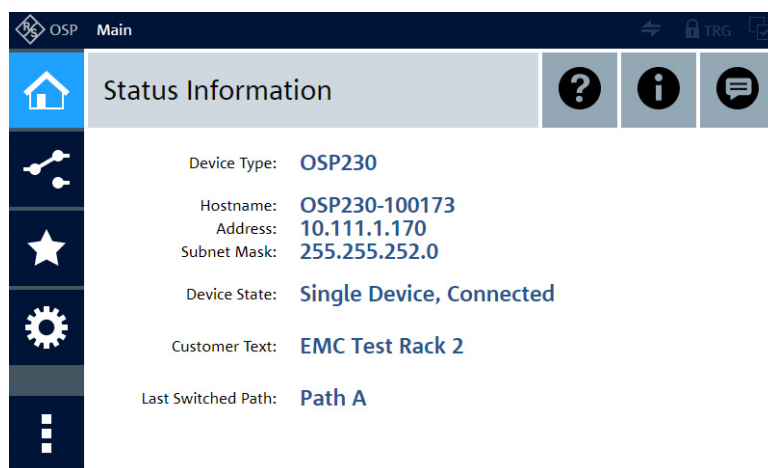
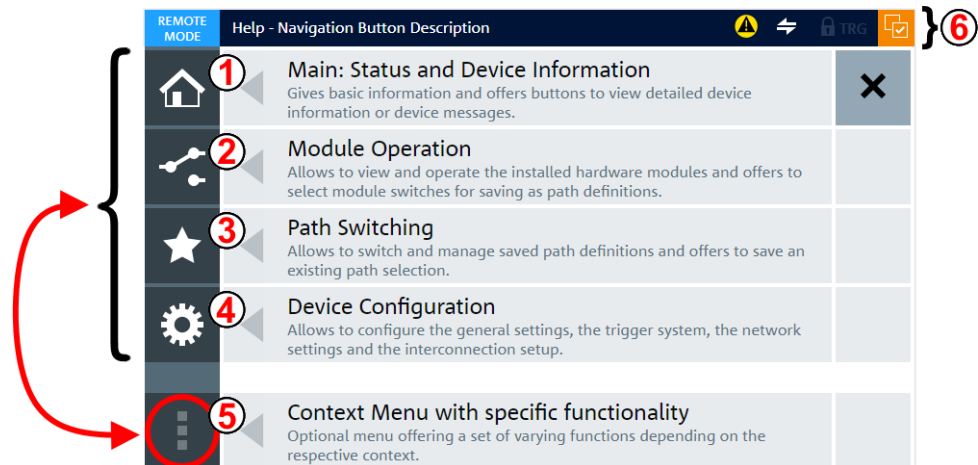

Figure 3-17: Main menu of the graphical user interface ("WebGUI"), here in the recommended Chrome browser
Figure 3-18: Main elements of the graphical user interface (GUI)
The **"Context Menu"** button calls specific functionality for any of the menu items shown above and listed as (1) to (4) in Figure 3-18. Hence, this button is always used **together** with one of the other buttons. For more information, refer to the "Context Functions" subchapters of the chapters that are referenced above.
The status bar is shown on top in Figure 3-17 and Figure 3-18. The various indicator icons have the following meanings: